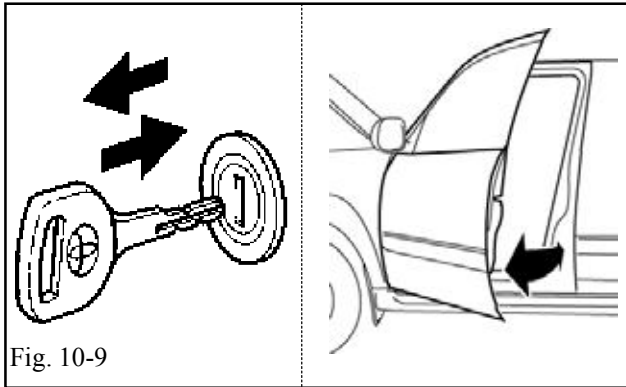

Fig. 10-9
- (p) Insert the Key into the ignition. (Fig. 10-9)
- (q) Remove and insert the Key into the ignition 6 times. (Fig. 10-9)
- (r) Close the Driver's Door. (Fig. 10-9)
- (s) Open and close the Driver's Door 7 times ending in Close position. (Fig. 10-9)
- (1) Complete these steps within 35 seconds.